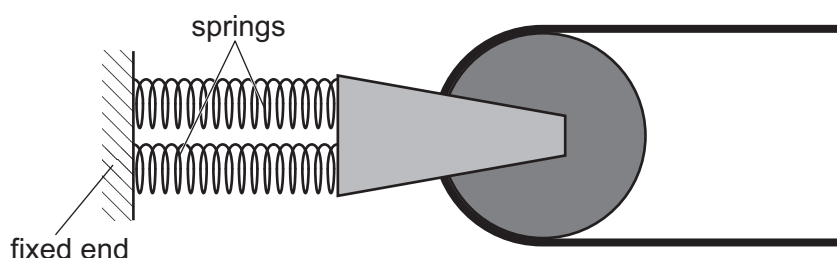

Fig. 3.3
- (c)** A second identical spring with the same spring constant of 250 N m^{-1} is now also connected to the pulley, as shown in Fig. 3.3.
- (ii)** The elastic potential energy stored in the spring in Fig. 3.1 is E_1 . The **total** elastic potential energy stored in the two springs in Fig. 3.3 is E_2 .